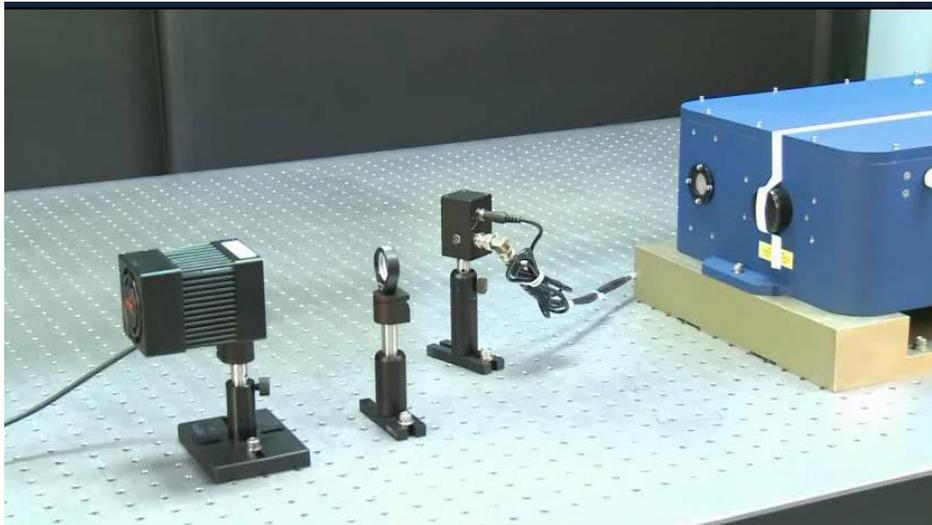

Figure 4-2. Basic setup for the laser power test
A power meter, with the ability to handle a minimum of 30 W, should be installed approximately 1.5 feet away from the laser in the direction of the laser output beam. To protect the power meter, a negative lens ($f=-100$ mm) with an anti-reflective (AR) coating at 532 nm should be installed in front of the power meter as shown in **Figure 4-2** below. If a negative lens is not available, the power meter should be at least 2 m away from the laser so that the beam size is larger and the power density is below the damage threshold of the power meter. A pulse detector should be positioned as shown in **Figure 4-2** to verify the pulse characteristics of the laser.